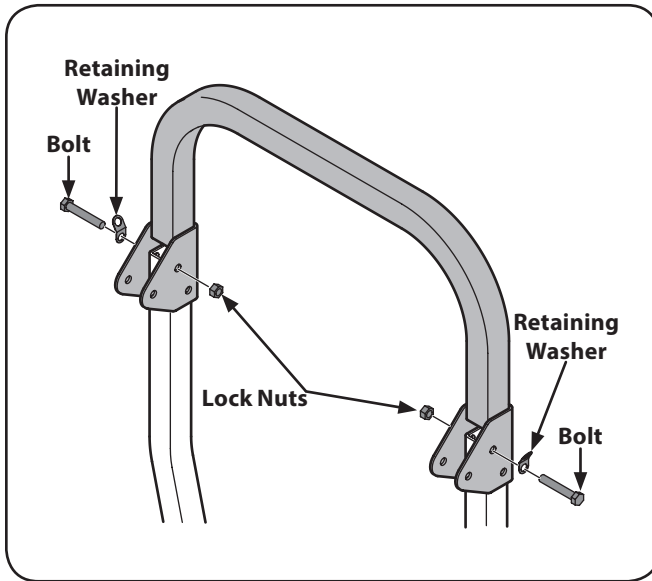

Figure 3-5
4. Install the upper ROPS section onto the lower ROPS "posts". Install the bolts and nuts. See Figure 3-5.